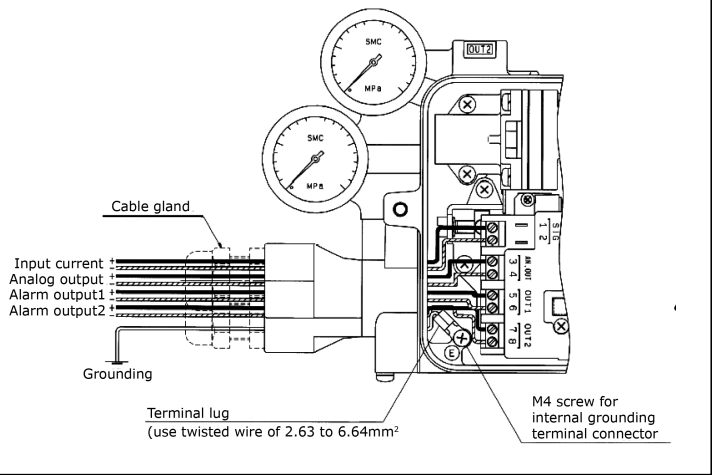

Fig. 8
- (1) Remove the positioner body cover.
- (2) Connect the input current wiring from an adjusting meter (controller) and connect each output wiring following Fig. 8. The input port of the electrical connection is equipped with a (blue) cable connector M20×1.5.